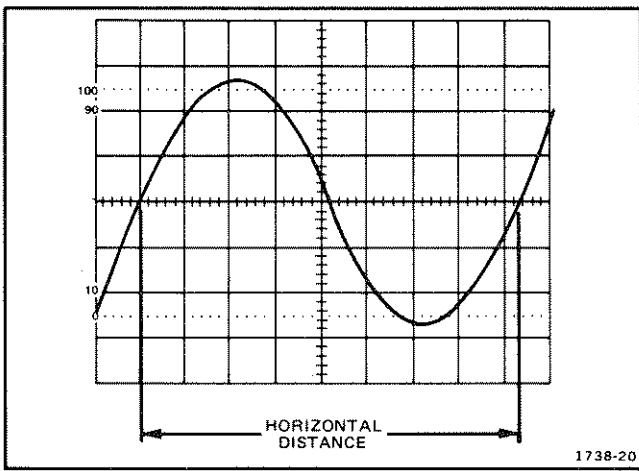

Figure 15. Time duration.
5. Position the display to place the time-measurement points on the center horizontal graticule line (see Figure 15).
**EXAMPLE:** The distance between the time-measurement points is 8.3 divisions (see Figure 15), and the SEC/DIV switch is set to 2 ms. The X10 Magnifier switch is pushed in (1X magnification).
**EXAMPLE:** The signal in Figure 15 has a time duration of 16.6 ms.